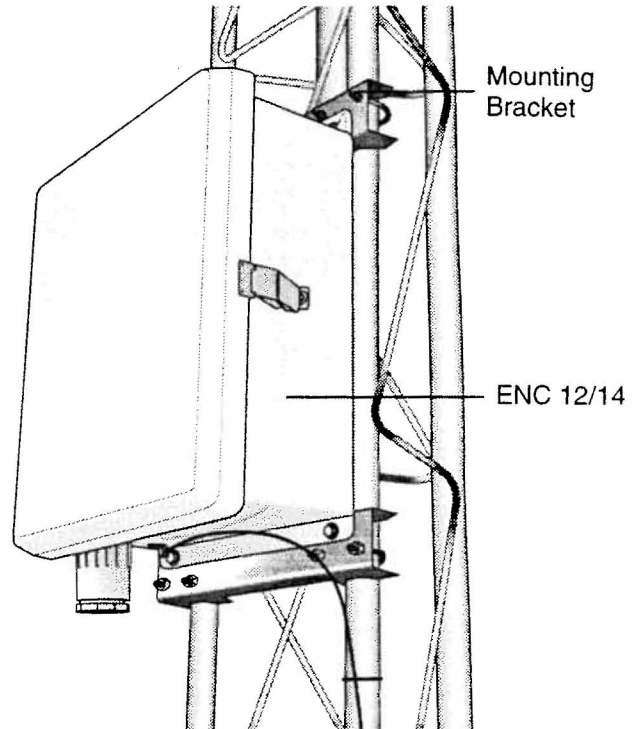

FIGURE 6-1. ENC 12/14 Enclosure
1. Mount the ENC 12/14 enclosure to the tower as shown in Figure 6-1. Position the enclosure on the north side of the mast with the top of the upper mounting bracket 59" up from the tower base. Secure the enclosure with the four U-bolts provided.